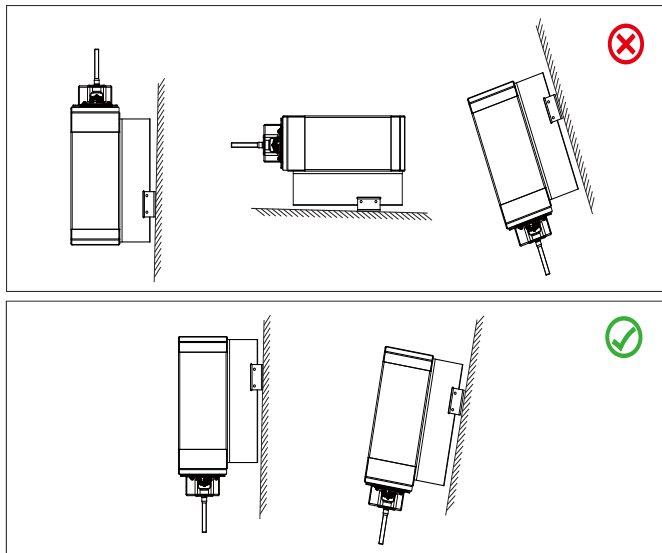

Figure-4.2 Installation angle
- Install vertically with a maximum incline of  $\pm 15^\circ$ . If the mounted inverter is tilted to an angle greater than this maximum angle, heat dissipation can be inhibited, and may result in less than expected output power (Installation angle shown in below figure-4.2).